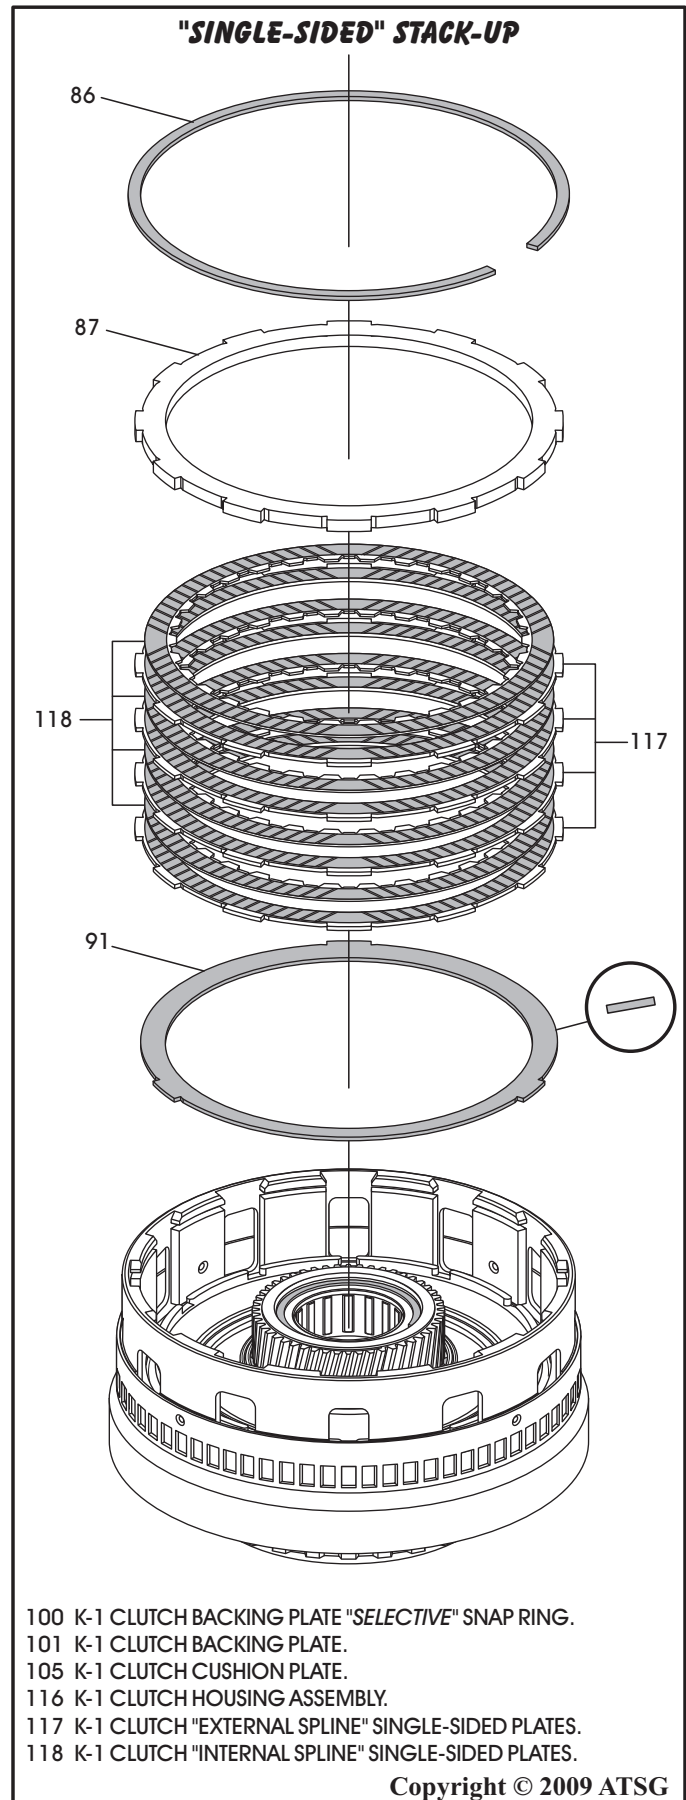

Figure 96
25. Install the K-1 clutch "dished" cushion plate in the direction shown in Figure 96.
26. Install the "single-sided" frictions beginning with an external spline plate and alternating with an internal spline plate, as shown in Figure 96, until you have the proper amount of plates installed.
27. Install the K-1 clutch backing plate, as shown in Figure 96.
28. Install the K-1 clutch selective snap ring, as shown in Figure 96.